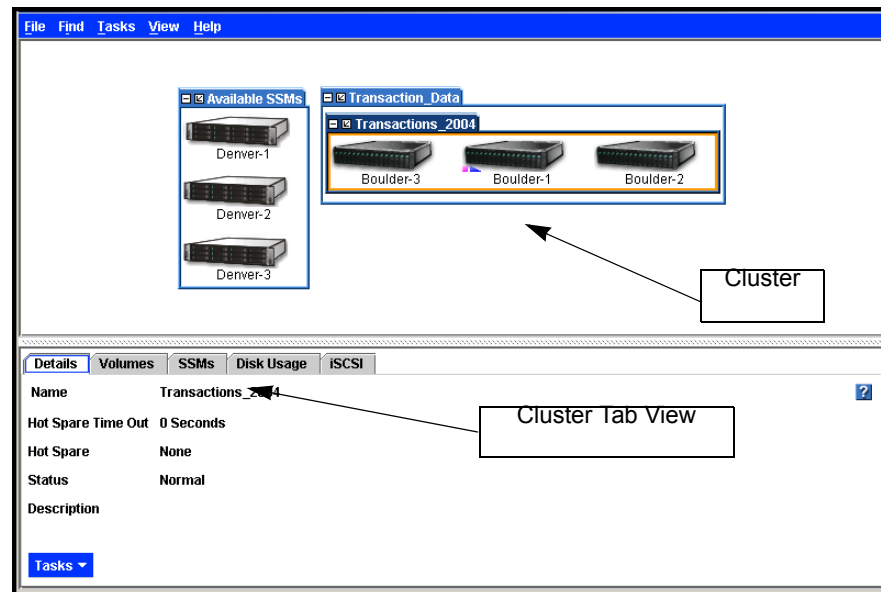

Figure 156. Viewing a Cluster and the Cluster Tab
4. Click OK when you have finished. The cluster is created and displayed inside the management group, shown in Figure 156.
5. Select the cluster to open the clusters Tab View, also shown in Figure 156.
The cluster Tab View is shown in Figure 156. In the Cluster Tab view, the tabs provide access to cluster information and features along with a Tasks button for taking actions on features.